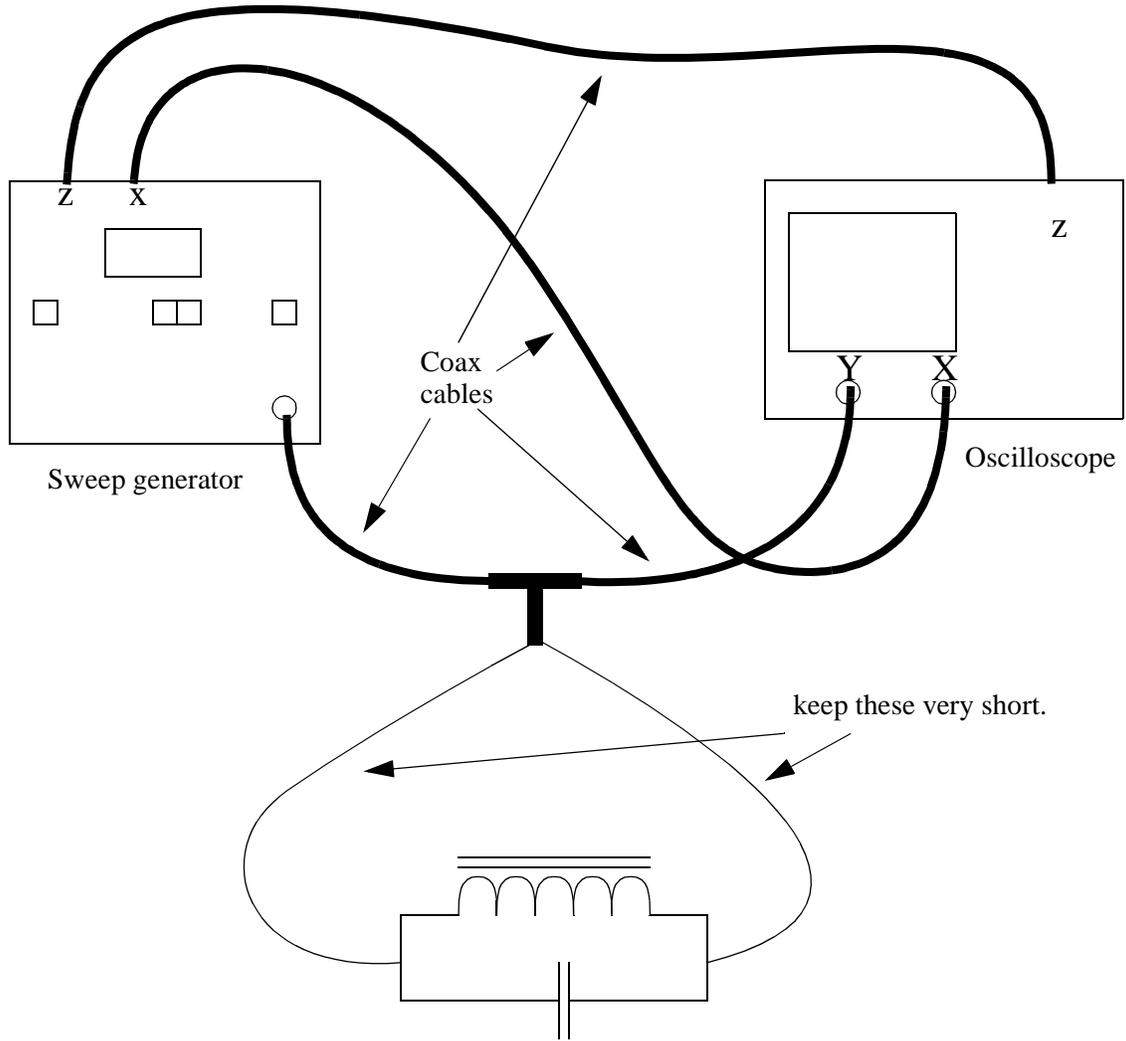

Figure 14.4 Experimental set-up
- P1.** Connect the sweep X-drive from the sweep generator to the X-axis input on the oscilloscope. On some units, these connections may be on the back. Connect the retrace blanking signal to the Z-axis or intensity input. Follow Figure 14.4.